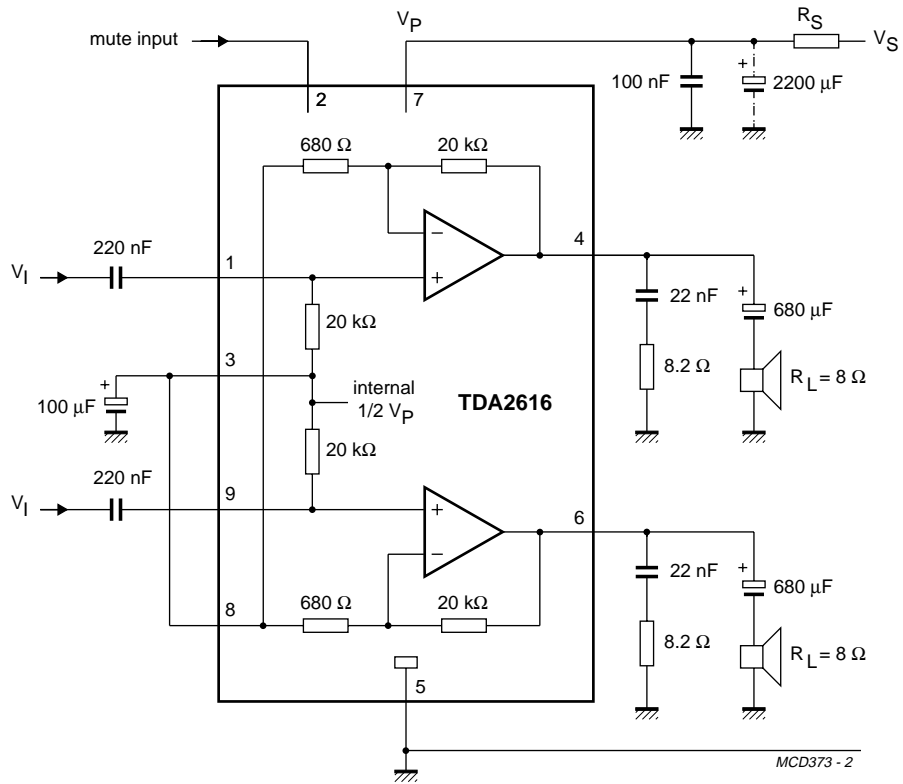

Fig.5 Test and application circuit with asymmetrical power supply.
- $V_P = 24 \text{ V}$; $R_L = 8 \Omega$; $T_{amb} = 25 \text{ }^\circ\text{C}$; $f = 1 \text{ kHz}$; asymmetrical power supply $I_{MUTE} < 30 \mu\text{A}$. See Fig.5